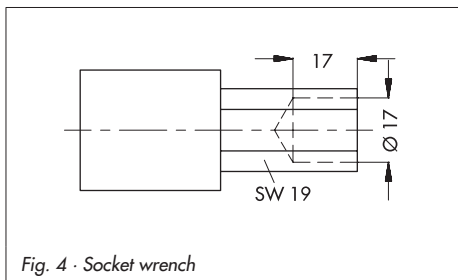

Fig. 4 - Socket wrench
3. Unscrew body screws (13) and remove actuator with intermediate ring (14).
5. **In sizes DN 15 to 25**, unscrew and pull out the guide nipple of the plug section (3) using a socket wrench (order no. 1280-3001). This wrench can also be made, for example, from a GEDORE screwdriver bit (IN 19-19) by drilling a 17 mm hole ( $\varnothing 17$ ) into the 19 mm hexagon bit as illustrated in Fig. 4.